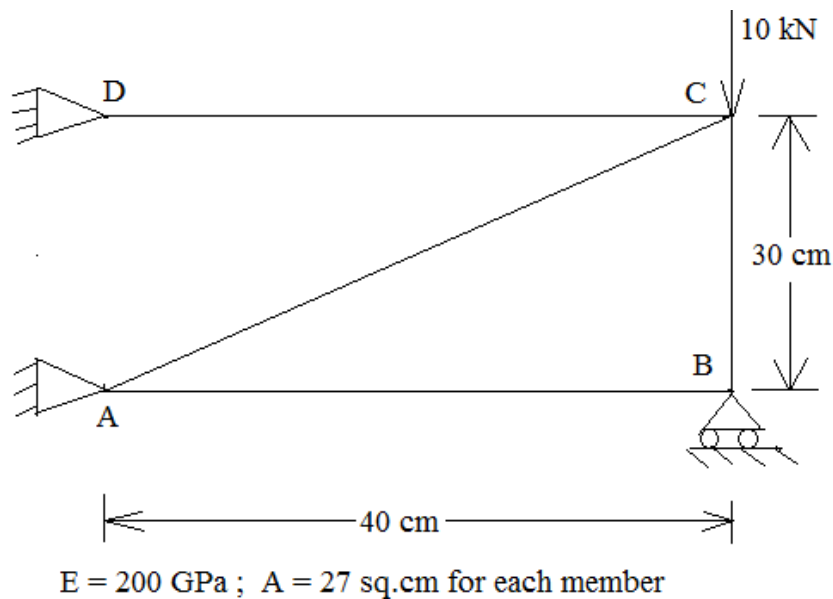

Fig. 4: A truss structure (Figure for Q.5)
Q.10: For the truss shown in Fig. 4, find out the following: